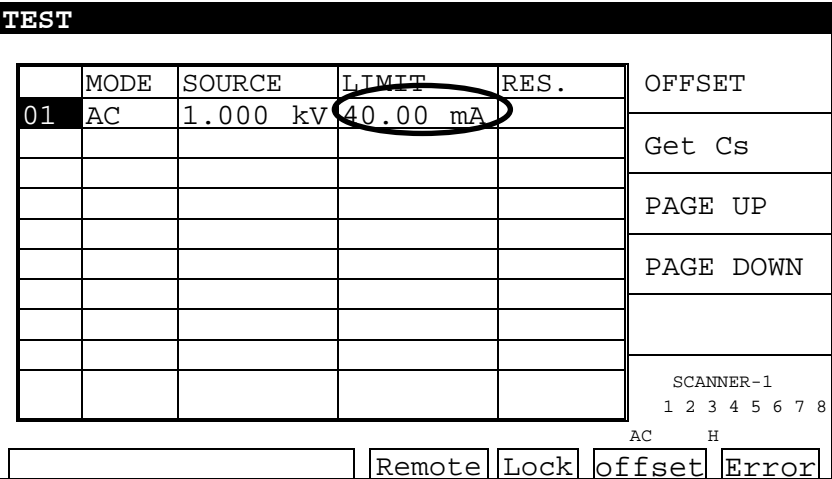

Figure 4-6
- (1) **Auto Range** function sets as **ON**.
- (2) The current range sets to high range *i.e.* 40mA as *Figure 4-6* shown.